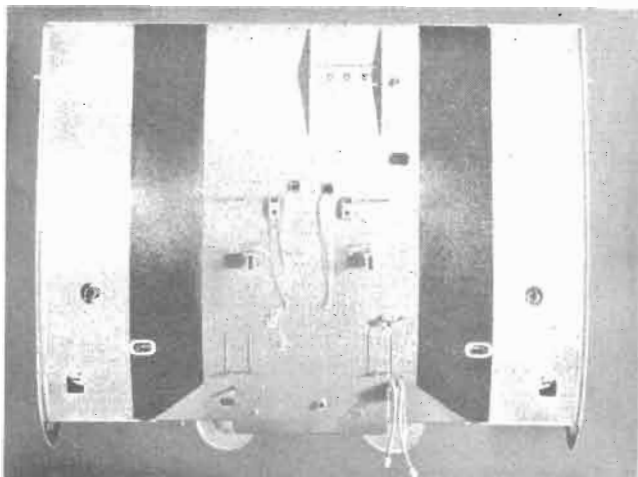

Figure 44 — Wing Center Section — Upper Surface
(1) CENTER SECTION.—(See figures 44 to 49.)